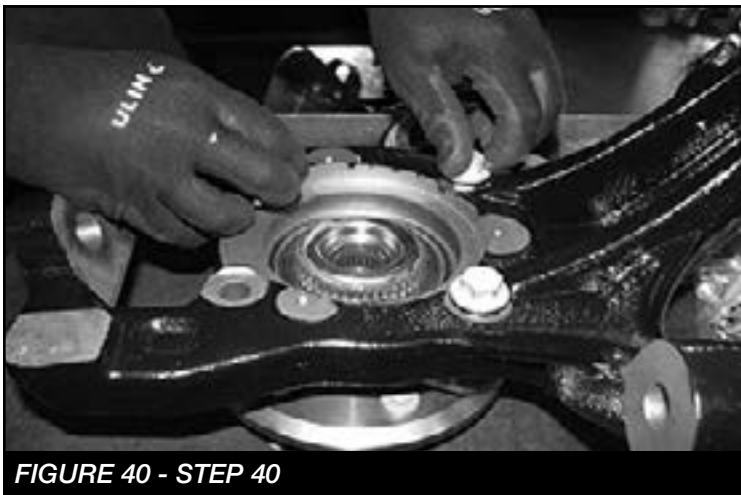

FIGURE 37 - STEP 38
38. Rotate the lower control arm up and mount to the lower coilover bar pin using the supplied 1/2" hardware. **NOTE:** Install the lower bar pin spacers under the bar pin (FT30604). Torque to 127 ft-lbs. **SEE FIGURE 37**